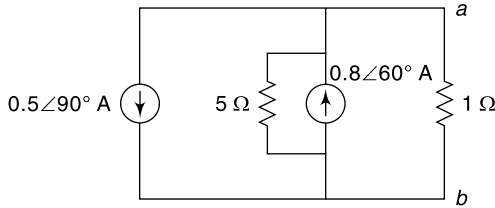

Fig. 6.11 Circuit of Ex. 6.11
6.11 Find current through the $1\ \Omega$ resistor in the circuit shown in Fig. 6.11 using Norton's theorem.